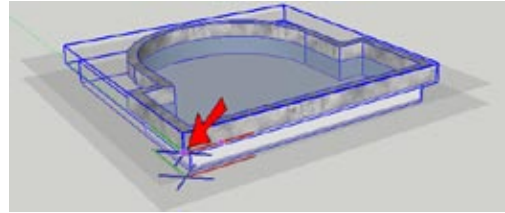

Figure 7-60
8. Select both cutting components and make a new component. Set the origin for this component at the bottom of the frame, where the window will meet the front face of the wall. Keep the red and green axes in their current directions (Figure 7-60).